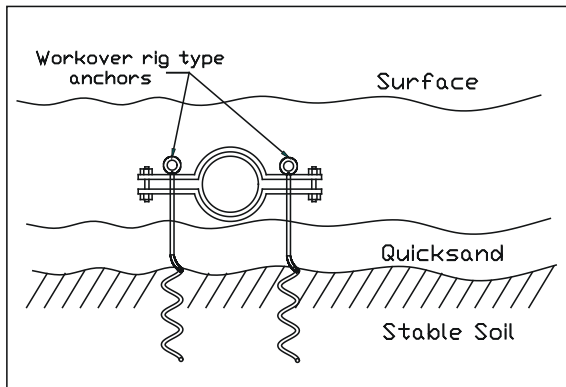

Figure 2 - Workover Rig Type Anchors
- B. Special anchors can be designed to prevent pipe from floating or raising. These anchors are designed depending on the conditions. Many are 360° saddles around the pipe that are welded to work over rig type screw anchors (Figure 2).